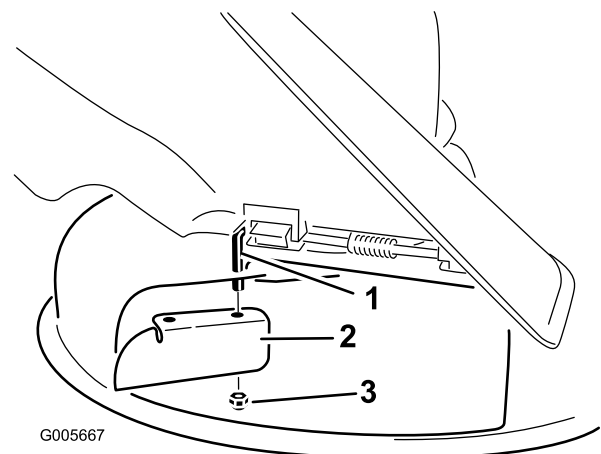

Figure 24
7. Install the cutoff baffle to the exposed pivot rod (Figure 24).
- Remove the cutoff baffle from the mower deck (Figure 24).